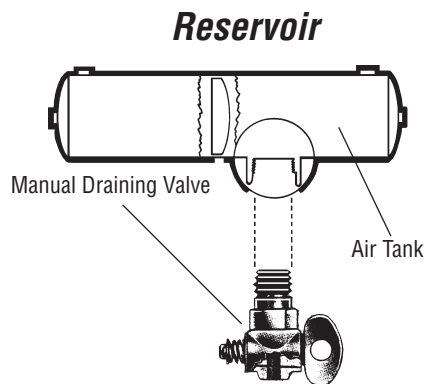

Figure 5-1 Manual Drain Valve
- Manually operated by turning a quarter turn, shown in Figure 5-1, or by pulling a cable. You must drain the tanks yourself at the end of each day of driving.